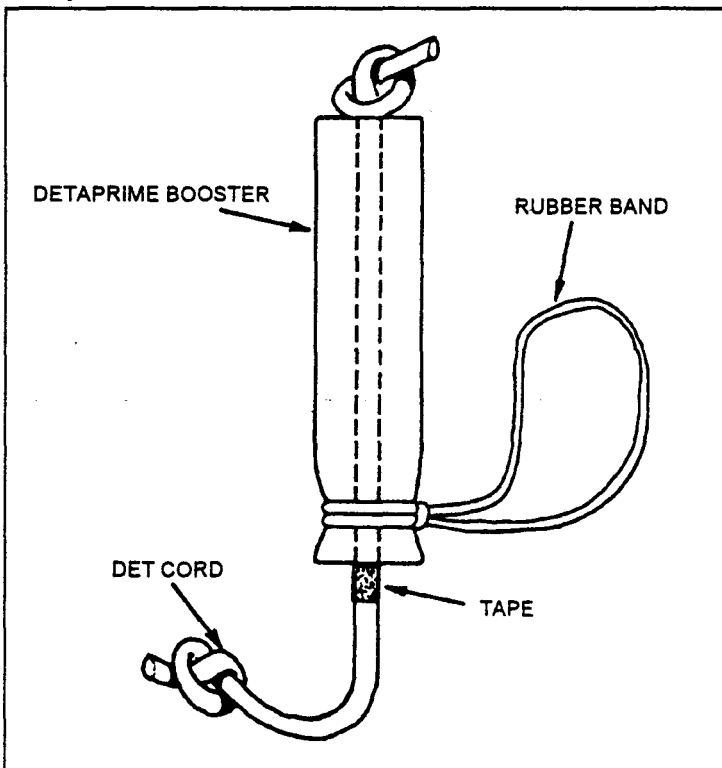

Figure M-5. Rubber band charge with Detaprime booster.
(1) Cut a 10-inch piece of detonation cord and tie an overhand knot in one end. Using another piece of detonation cord, tie a uli knot with at least eight wraps around the first length of cord. As an alternative to the uli knot, pass the detonation cord through the center of a 20-gram Detaprime booster. Slide the uli knot or the Detaprime booster tightly up against the overhand knot. Secure it in place with either tape or string. Loop a strong rubber band around the base of the uli knot tied around the detonation cord, or around the base of the booster. Tie an overhand knot in the other end of the cord to form a pigtail for priming the charge (Figure M-5).
(2) Attach the charge to the doorknob (or locking mechanism) by pulling the loose end of the rubber band around the knob. The charge should be placed between the knob and the door frame. This places the explosive over the bolt that secures the door to the frame.